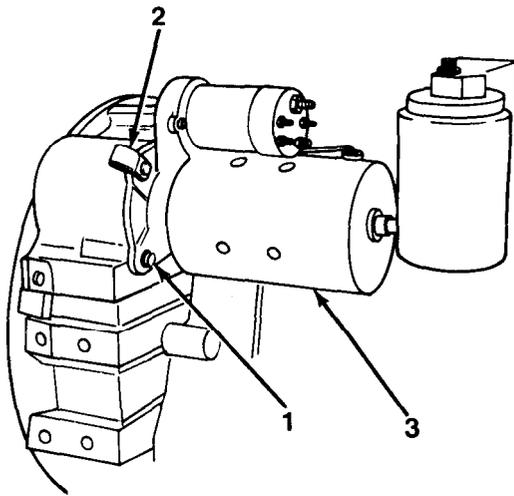

Figure 10-1
3. Remove three capscrews (1), clip (2) and starting motor (3, Figure 10-1) from engine.
1. Position starting motor (3) cm engine and install clip (2) and three capscrews (1, Figure 10-1). Torque three capscrews (1) to 32 lb-ft (43 N•m).